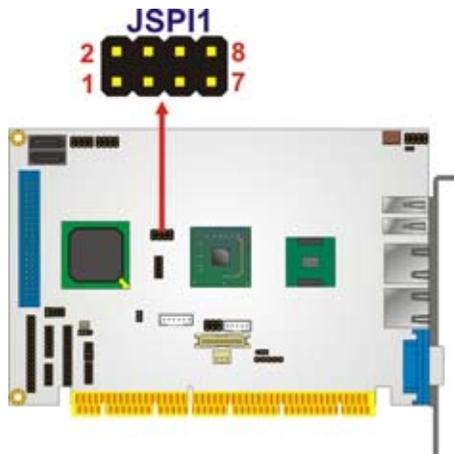

Figure 3-7: BIOS Programming Connector Pinouts
- CN Location:** See Figure 3-7